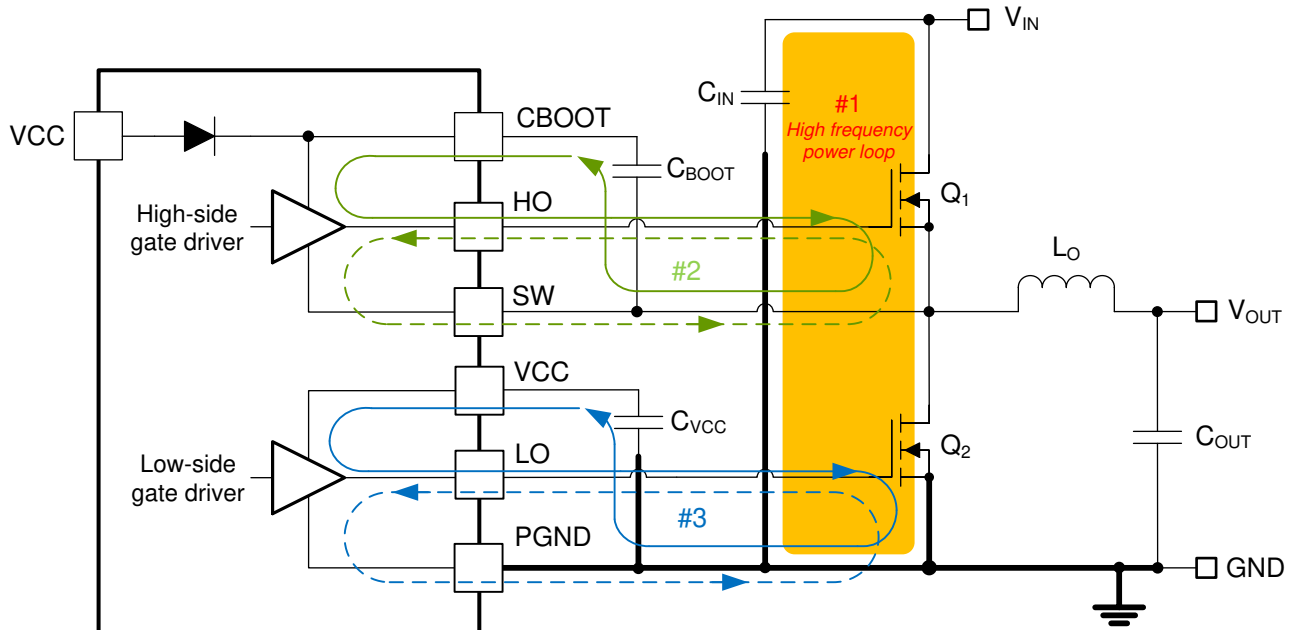

Figure 11-1. DC/DC Regulator Ground System With Power Stage and Gate Drive Circuit Switching Loops
Proper PCB design and layout is important in a high-current, fast-switching circuit (with high current and voltage slew rates) to achieve a robust and reliable design. As expected, certain issues must be considered before designing a PCB layout using the LM25148. The high-frequency power loop of a buck regulator power stage is denoted by loop 1 in the shaded area of Figure 11-1. The topological architecture of a buck regulator means that particularly high di/dt current flows in the components of loop 1, and it becomes mandatory to reduce the parasitic inductance of this loop by minimizing its effective loop area. Also important are the gate drive loops of the high-side and low-side MOSFETs, denoted by 2 and 3, respectively, in Figure 11-1.
- Loop 1: The most important loop area to minimize is the path from the input capacitor or capacitors through the high- and low-side MOSFETs, and back to the capacitor or capacitors through the ground connection. Connect the input capacitor or capacitors negative terminal close to the source of the low-side MOSFET (at ground). Similarly, connect the input capacitor or capacitors positive terminal close to the drain of the high-side MOSFET (at V_{IN}). Refer to loop 1 of Figure 11-1.
- The SW pin connects to the switch node of the power conversion stage and acts as the return path for the high-side gate driver. The parasitic inductance inherent to loop 1 in Figure 11-1 and the output capacitance (C_{OSS}) of both power MOSFETs form a resonant circuit that induces high frequency (greater than 50 MHz) ringing at the SW node. The voltage peak of this ringing, if not controlled, can be significantly higher than the input voltage. Make sure that the peak ringing amplitude does not exceed the absolute maximum rating limit for the SW pin. In many cases, a series resistor and capacitor snubber network connected from the SW node to GND damps the ringing and decreases the peak amplitude. Provide provisions for snubber network components in the PCB layout. If testing reveals that the ringing amplitude at the SW pin is excessive, then include snubber components as needed.
- Loop 2: high-side MOSFET, Q_1 . During the high-side MOSFET turnon, high current flows from the bootstrap (boot) capacitor through the gate driver and high-side MOSFET, and back to the negative terminal of the boot capacitor through the SW connection. Conversely, to turn off the high-side MOSFET, high current flows from the gate of the high-side MOSFET through the gate driver and SW, and back to the source of the high-side MOSFET through the SW trace. Refer to loop 2 of Figure 11-1.
- Loop 3: low-side MOSFET, Q_2 . During the low-side MOSFET turnon, high current flows from the VCC decoupling capacitor through the gate driver and low-side MOSFET, and back to the negative terminal of the capacitor through ground. Conversely, to turn off the low-side MOSFET, high current flows from the gate of the low-side MOSFET through the gate driver and GND, and back to the source of the low-side MOSFET through ground. Refer to loop 3 of Figure 11-1.